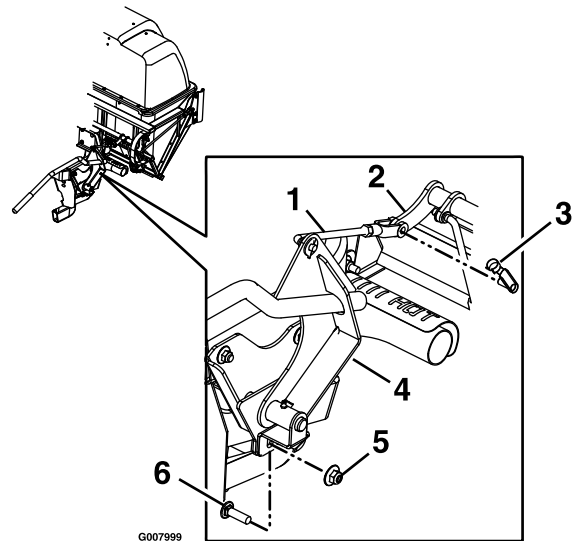

Figure 13
13. If the handle was removed on the LZUVQD11, install the handle assembly to the unit by fastening the bolt and nut as shown in Figure 13. Unlatch the spring clevis pin from the handle link. Rotate the handle link towards the actuation arm bracket